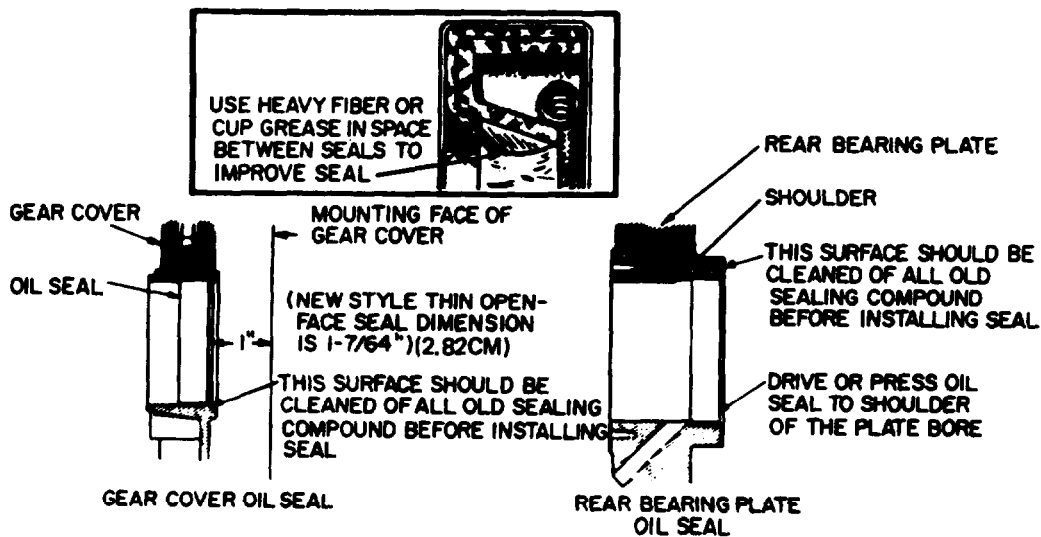

Figure 5-57. Gear Cover and Rear Bearing Plate Oil Seals
- (3) Before installing the seals, fill the space between seals with a fibrous grease or stiff cup grease. This will improve sealing, See figure 5-57.
- (4) When installing the gear cover oil sad, tap the seal inward until rear (spring side) of casing is 1-1/32 inch (2.62 cm) from the mounting face of the gear cover. Install new style, thin open face seal, 1-7/64 inches (2.82 cm) from mounting face of cover.
- (5) When installing the bearing plate oil seal, tap the seal into the bearing plate bore to bottom against the shoulder in the plate bore. Use a seal expander, or place a piece of shim stock around the end of the crankshaft, when replacing the bearing plate to avoid damaging the seal. Remove the shim stock as soon as the plate is in place.